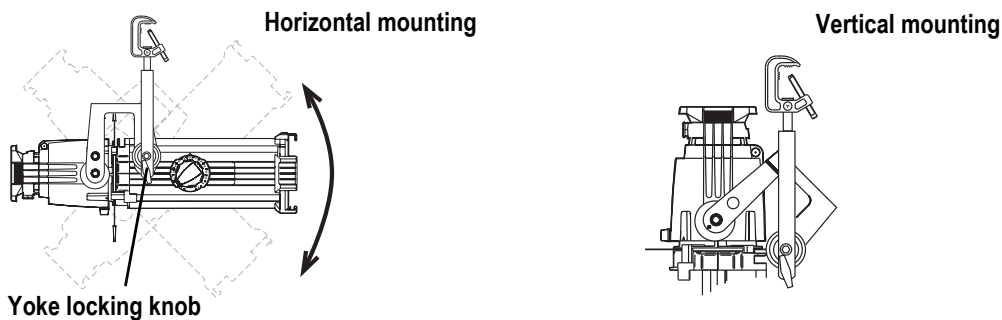

Figure 13
- Step 2: Tilt the luminaire to the desired position as shown in Figure 13.